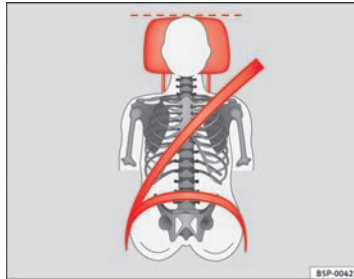
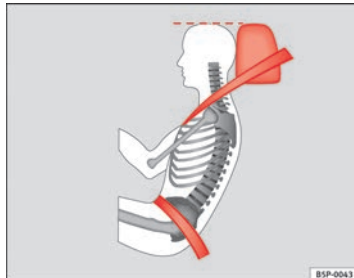

Fig. 3 Correctly adjusted head restraint viewed from the front
Fig. 4 Correctly adjusted head restraint viewed from the side
- Adjust the head restraint so that its upper edge is at the same level as the top of your head or as close as possible to the same level as the top of your head and, at the very least, at eye level ⇒ Fig. 3 and ⇒ Fig. 4.